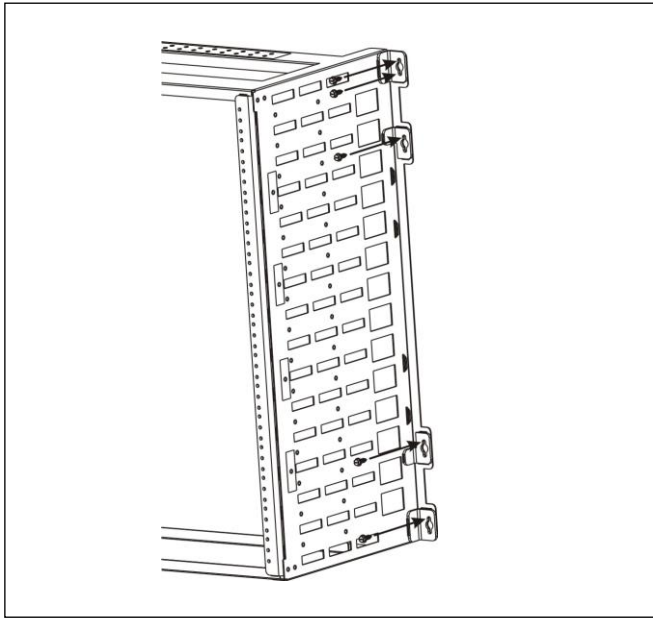

Figure 6. Mounting screw locations
- ③ Tape the drill template to the wall ensuring it is level. The drill template provides information for multiple wall mounted racks. Be sure to use the hole symbol (E). Drill ten (10) 3/16" pilot holes. These holes mate with the mounting brackets located at the rear of the frame. The frame will be fastened with two screws in the topmost bracket on each side and one screw in each of the other brackets, as shown in Figure 6.